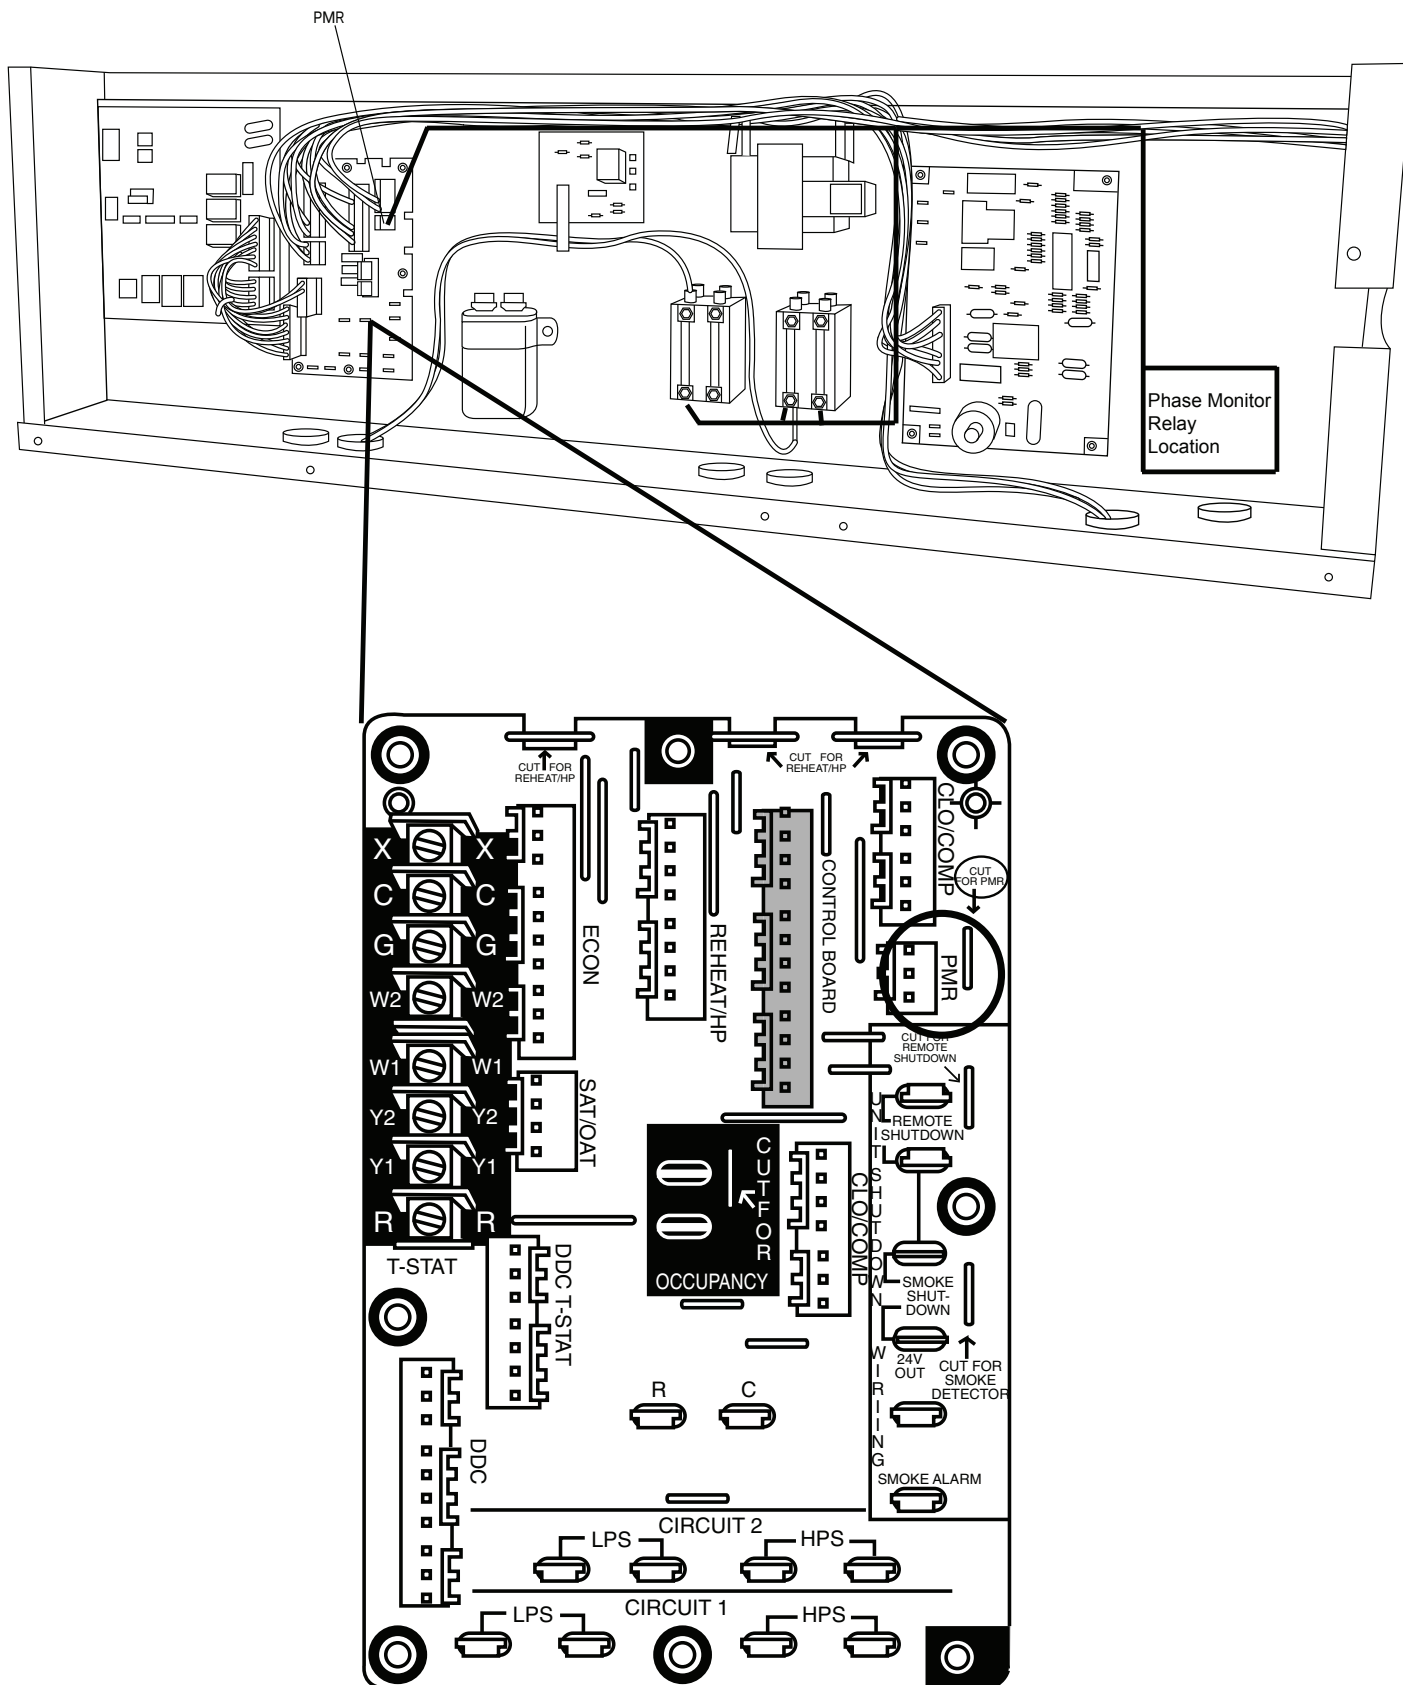
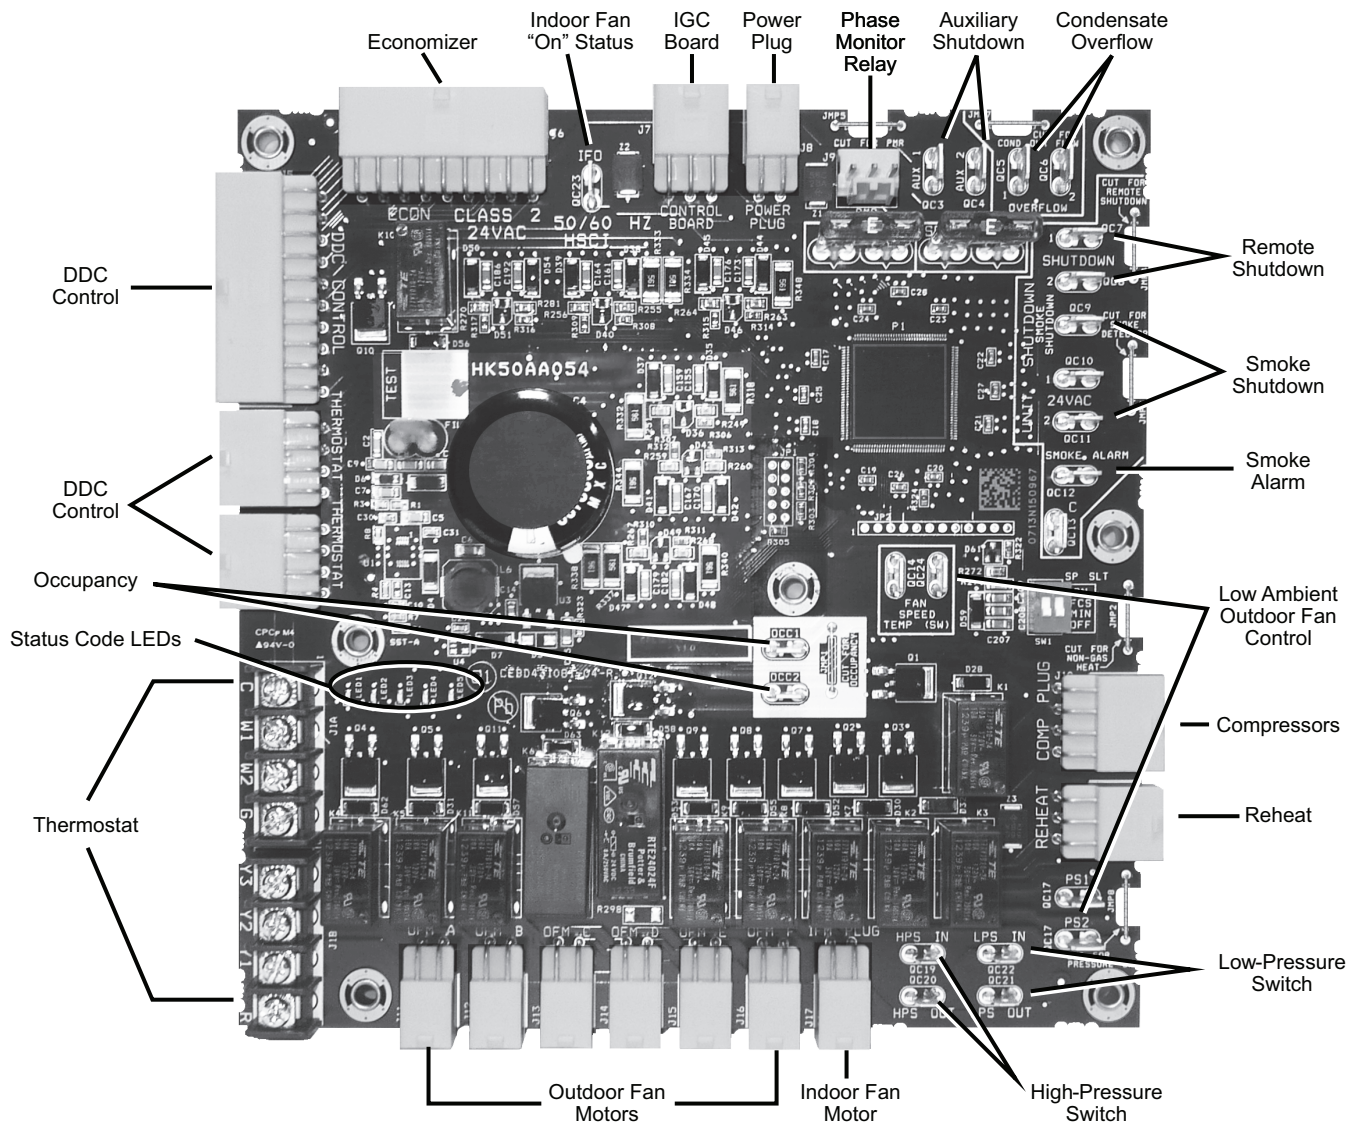

Fig. 2 — Controls Box Showing Mounting Location and Recommended Wire-Routing Path with Exploded View of Terminal Board (YAC with 3-Phase Indoor Fan Motor Shown)
Fig. 3 — 48/50LC Control Board
2. Install the phase monitor module in the unit control box as shown in Fig. 2. Use the screws provided in the kit, screwing into the pre-drilled holes in the back of the control box.
- a. Harness Assembly 1: For TC, HC, and LC units, connect the female Molex[®] plug to the phase monitor relay (PMR) male connector on the unit-mounted terminal board. See the applicable terminal board diagrams (see Fig. 2 and Fig. 3).
8. Cut the PMR jumper on the terminal board. (See Fig. 2 and 3.)